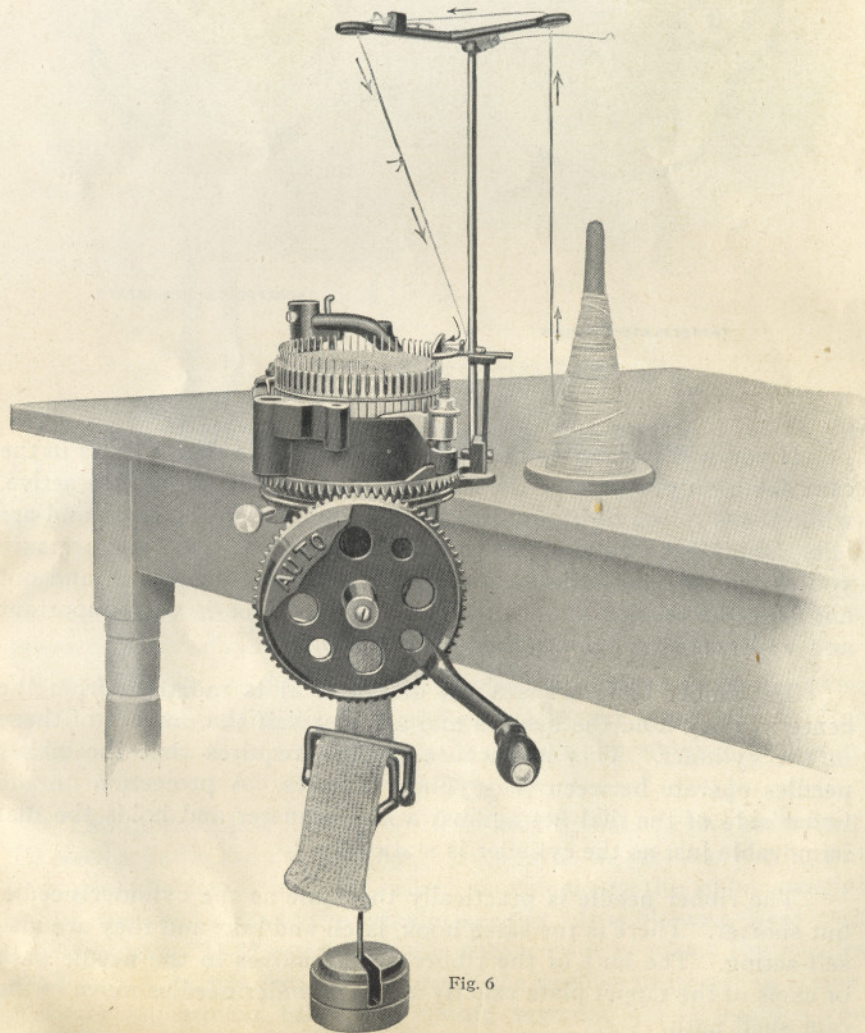

Fig. 6
The knitted work in the machine is tied to the crank wheel (C) to prevent the stitches coming off. Cut this string, taking care not to turn the handle of the machine until you have the yarn in position to feed. Should some of the web have become tangled up in the needles, push it carefully down on the needles so as to free the latches, but leave the stitches on the needles. Then draw down the knitted web with your hand and attach the buckle (O) by drawing the fabric under its frame and over its clamp and hang the weights into the buckle. See Fig. 6.
Place the yarn stand rod (K) in the hole in the bed plate (A) at the back, and tighten the screw. Attach the yarn stand top (L) to the top of the rod, so that the eye in the long arm of the top will be directly over the centre of the needle cylinder (F). Tighten the screw in the yarn stand top that holds it to the rod. See Fig. 6.
Set a bobbin of yarn directly under the eye of either short arm (b or c) of the yarn stand top. See Fig. 6 and 8. Draw the yarn up through this eye, through the hole in the lug "d" on the long arm, under the take-up lock "L-4" and down through the eye "a" at the end of the long arm, which must be exactly over the center of the cylinder. Draw the yarn through the yarn carrier from the outside through the two holes if you are setting up new work or tie this end to the end of the yarn which you unwound from the needles and wind all slack onto the bobbin. See Fig. 6. (The illustration above shows by dotted lines the position of the heel spring when making heel and toe.